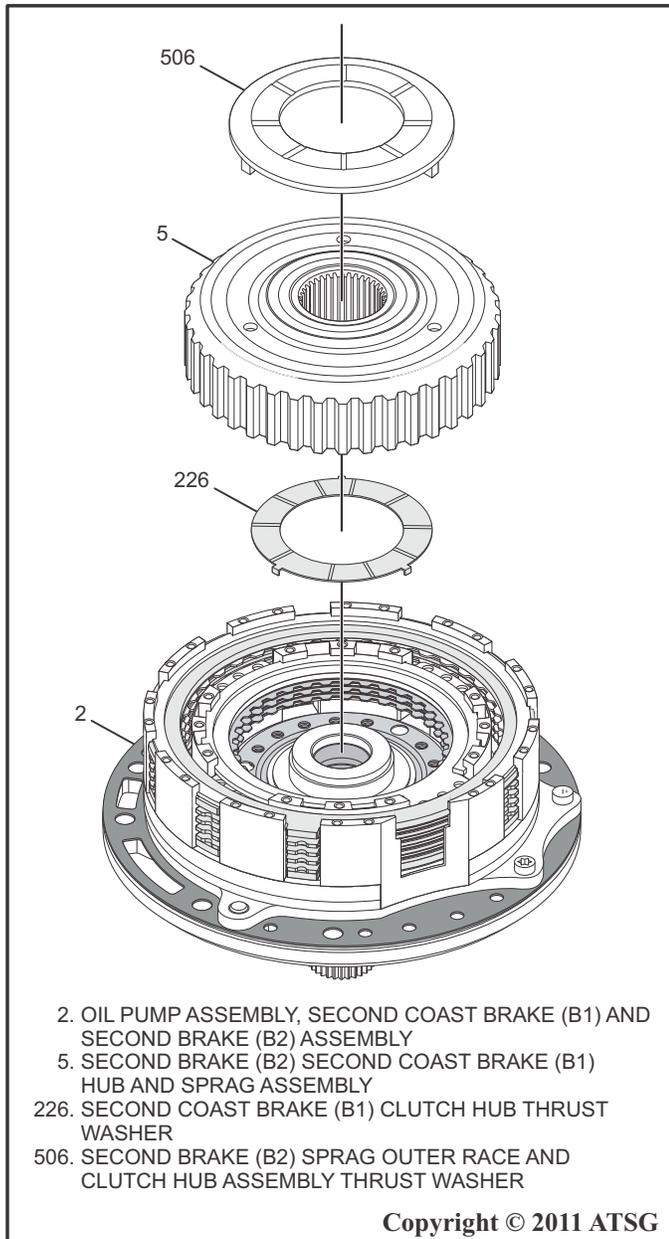

Figure 119
9. Coat the Second Coast Brake (B1) Clutch Hub Thrust Washer with a small amount of Trans-Jel® and install the washer on the Pump Assembly as shown in Figure 119
10. Install the Second Brake (B2), Second Coast Brake (B1) Hub and Sprag Assembly into the Pump Assembly using a twisting motion until it is indexed into all clutch plates and is seated against the washer as shown in Figure 119.
11. Coat the Second Brake Sprag (F1) Outer Race and Clutch Hub Thrust Washer with a small amount of Trans-Jel® and install onto the sprag assembly as shown in Figure 119.